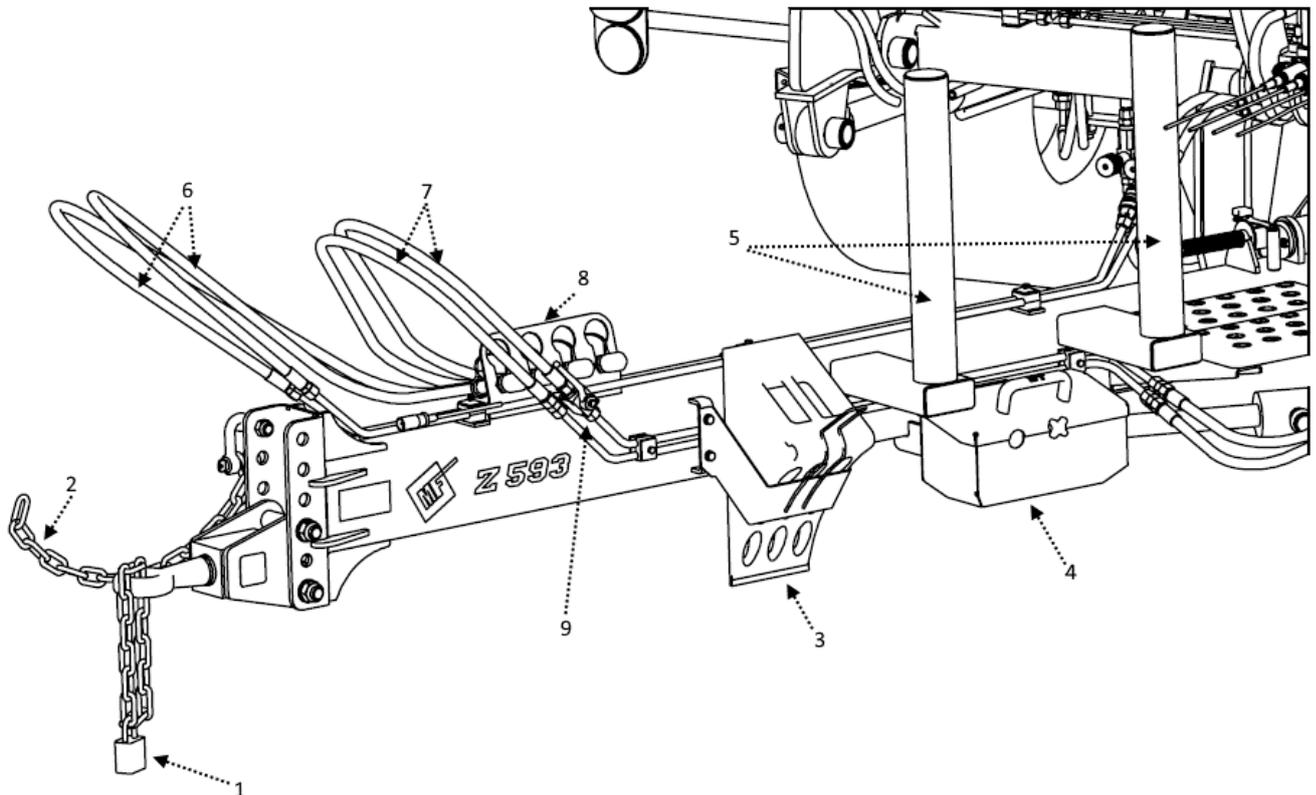

Figure 5. Drawbar components
- Disconnect both the power-supply and lighting systems, wind the wires up. and put them away in a container in the Bale Wrapper's drawer (**Fig. 5 - 4**).
- Disconnect the power hydraulics system and protect the hydraulic hoses in their clamps on the Bale Wrapper's drawbar (**Fig. 5 - 8**).
- Make sure that there is no risk of accidental machine displacement, and insert a wheel chock if necessary (**Fig. 5 - 3**).
- Fit the drawbar eye with the protection against unauthorised use (**Fig. 5 - 1**).
Key for the Z593 Bale Wrapper's drawbar components (**Fig. 5**)